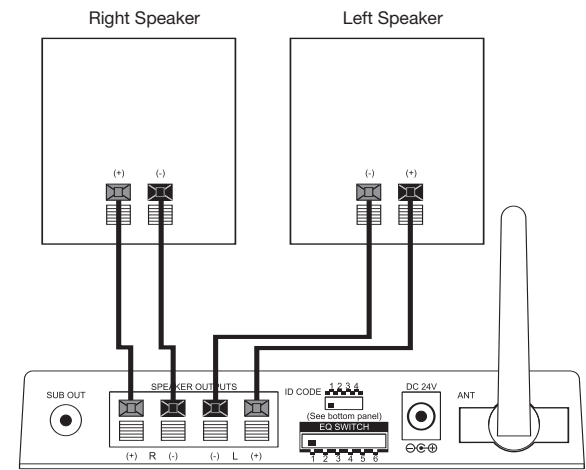

Figure 4.
Connect the speaker wire to the push terminals on the receiver module ⑪ and the terminals on the rear of your speakers, as shown in Figure 4. Please note that the speaker wire features a polarity indicator to help distinguish its two conductors. Use this polarity indicator to ensure that you are connecting the positive (+) terminal on one speaker to the positive (+) terminal on the other, and the negative (–) to the negative (–).